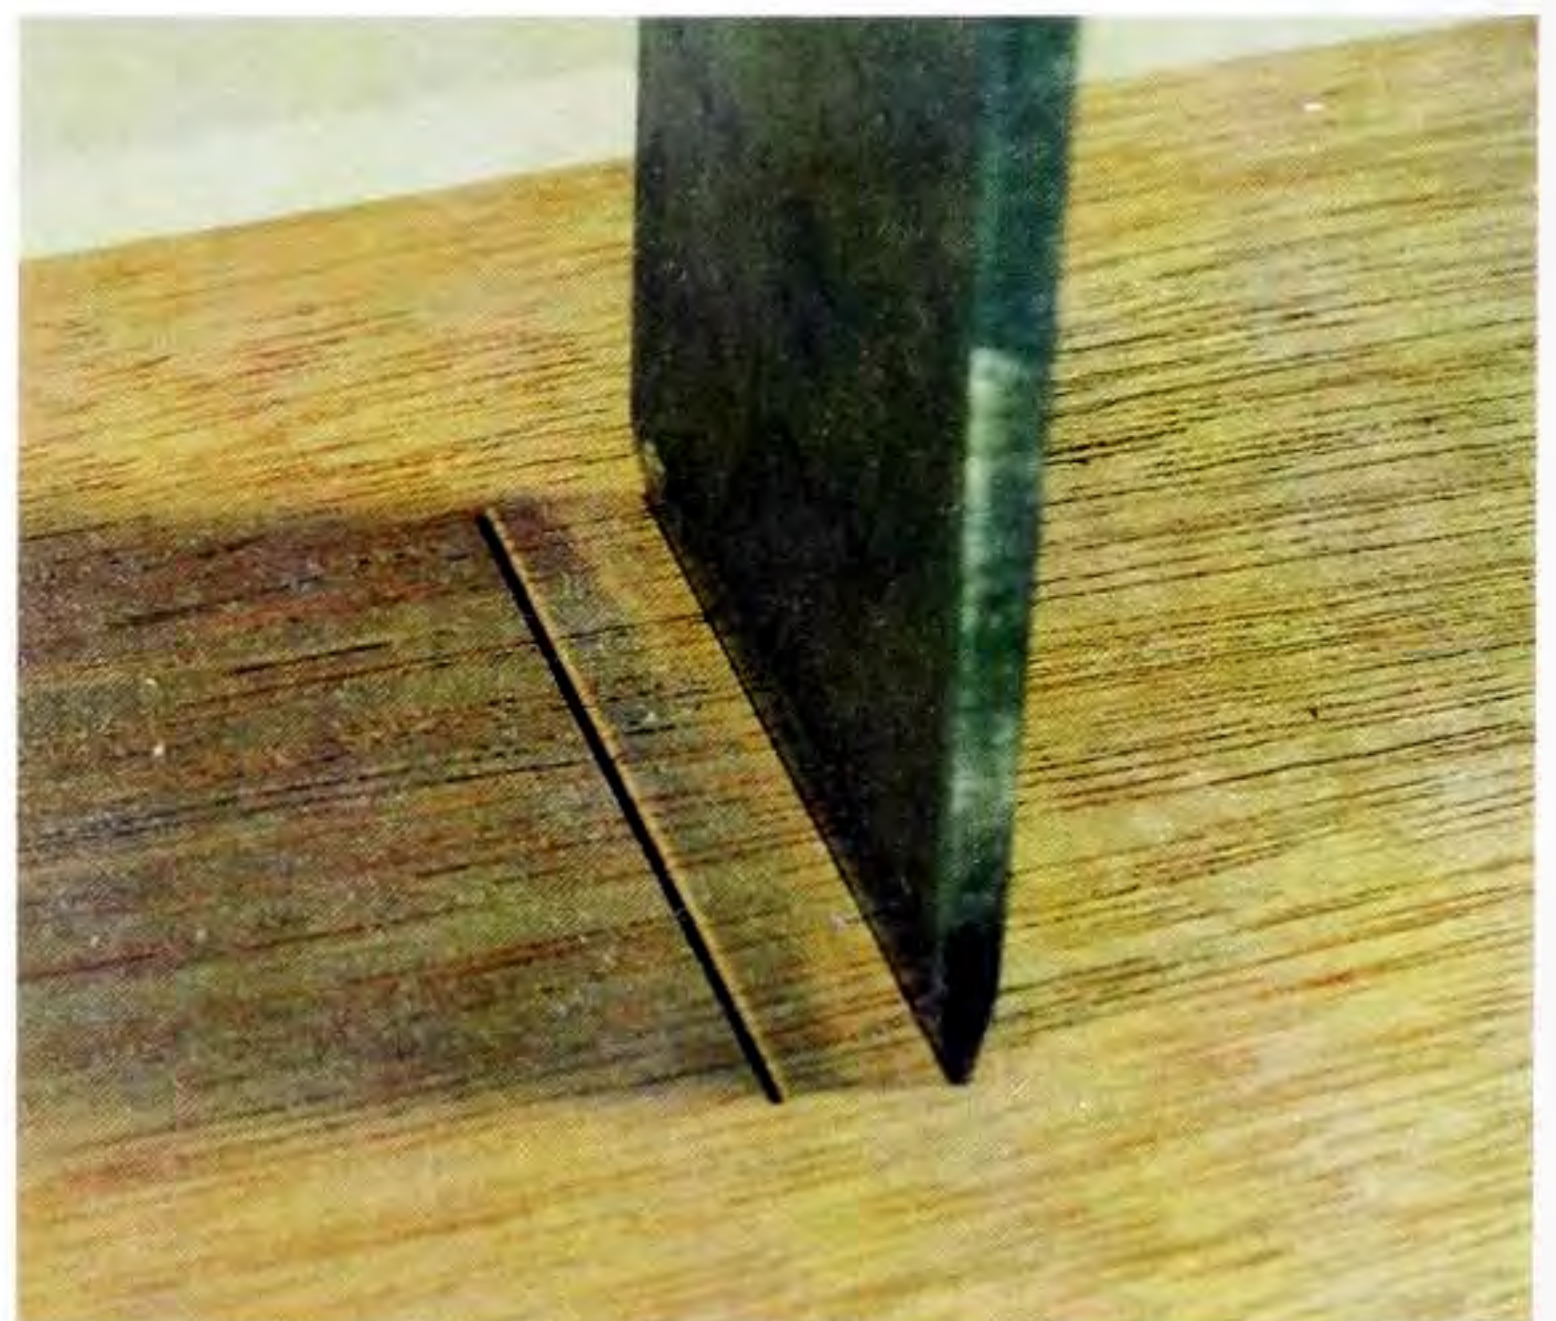

Fig 5.4 Positioning for a simple stab cut. You can see a successfully completed cut in front of the chisel face.
- 8 Without moving the chisel, raise the mallet again, to about head height, and strike firmly downwards. Try to 'think' the blow straight through the vertical chisel and into the wood, and strike cleanly so that the chisel handle is deflected neither to one side or the other (see Fig 5.4).